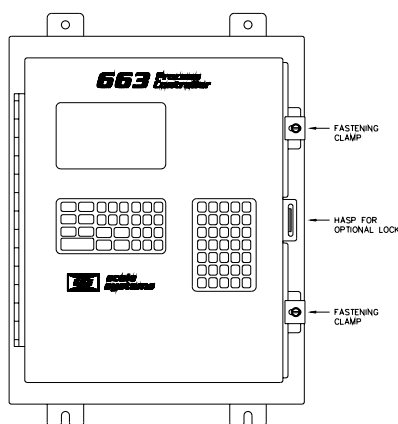

Figure 2-8: 663 Front Panel
2. Using a large, flat-tip screwdriver, loosen the spring-loaded 1/4-20 slotted pan head screws in the two fastening clamps on the right side of the controller, and slide the clamps to the right (see Figure 2-8).
6. Slide the exterior door fastening clamps to the left (see Figure 2-8).